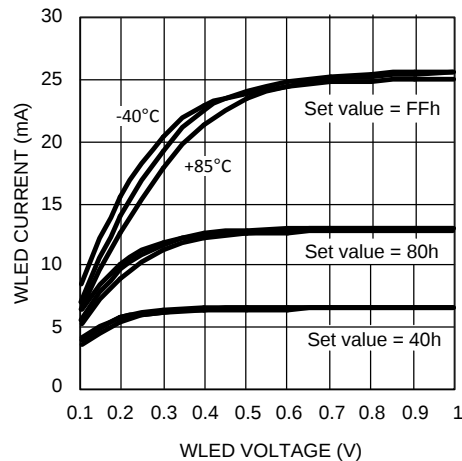

Figure 26. WLED Output Current vs Voltage
(1) A minimum voltage, Dropout Voltage, is required on the WLED outputs for maintaining the LED current. The current reduction at lower voltages is shown by the graph in Figure 26.
(2) Match % = 100% \* (Max – Min)/Min